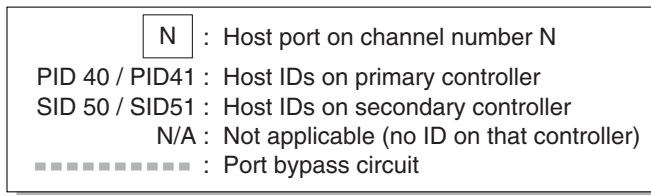

FIGURE 5-1 A Point-to-Point Configuration With a Dual-Controller Array and Two Switches
- If you have two switches and set up multipathing (to keep all logical drive connections operational for any switch failure or the removal of any I/O controller module), ensure that each logical drive is mapped to two ports, one on each I/O controller module, and on two channels. The cables from the two ports mapped to each logical drive must be cabled to two separate switches. See FIGURE 5-1 for an example of this configuration.
FIGURE 5-1 shows the channel numbers (0, 1, 4, and 5) of each host port and the host ID for each channel. N/A means that the port does not have a second ID assignment. The primary controller is in the top I/O controller module, and the secondary controller is in the bottom I/O controller module.
In FIGURE 5-1, with multipathing software to reroute the data paths, each logical drive remains fully operational when the following conditions occur:
TABLE 5-2 summarizes the primary and secondary host IDs assigned to logical drives 0 and 1, based on FIGURE 5-1.
Perform the following steps, which are described in more detail later in this manual, to set up a typical point-to-point SAN configuration based on FIGURE 5-1.